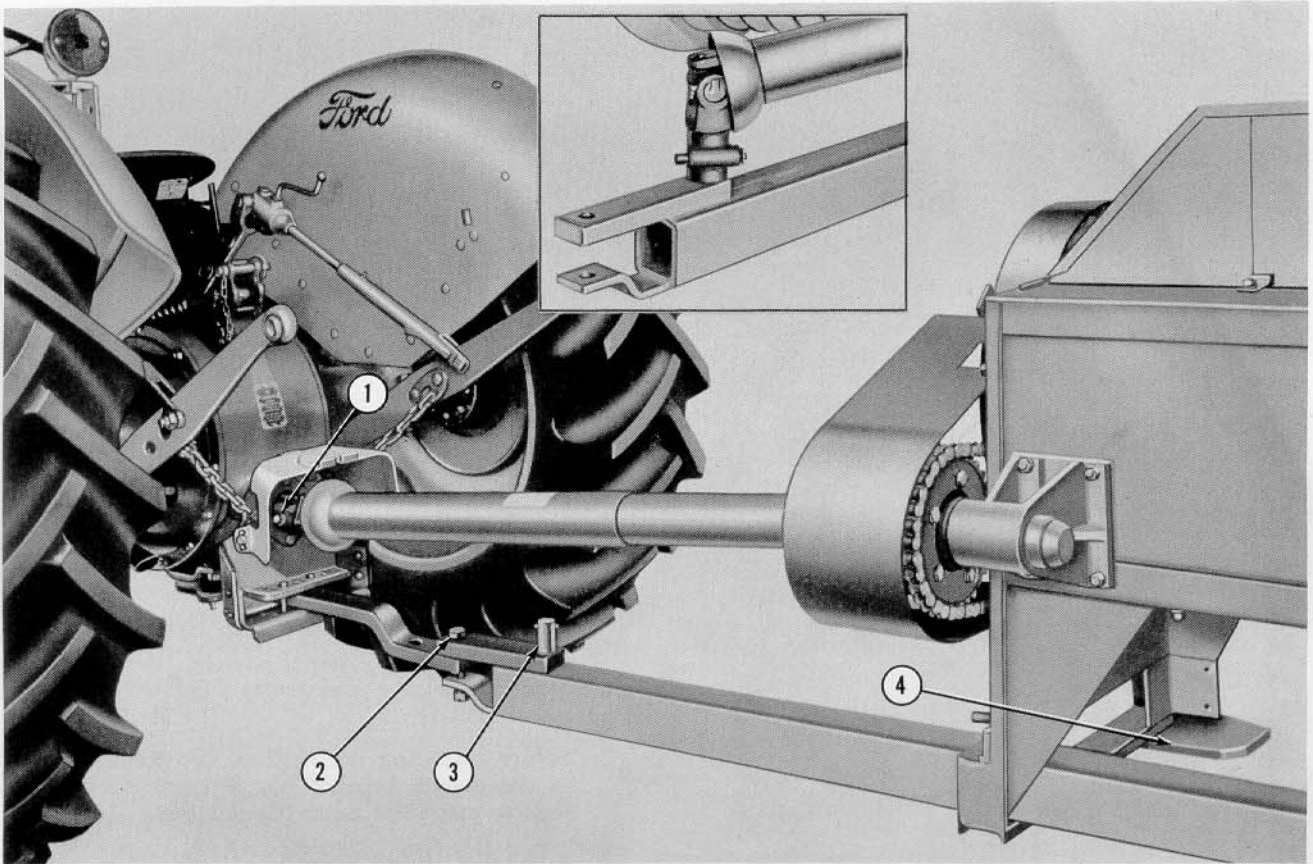

Figure 3
When attaching the baler to late Series 600, 700, 800 and 900 Ford Tractors which are equipped (standard) with a Swinging Drawbar and $1\frac{3}{8}$ " P.T.O. shaft, the drawbar should be in the extended position with the offset down as shown in Figure 3. The drawbar should be locked in the center position with two $\frac{5}{16}$ " bolts. The baler tongue may be set in the extreme left position for field operation or in the right position for transport purposes.
special retainer (3), Figure 3, is provided for attaching the P.T.O. shaft to the baler tongue during transport (see insert, Figure 3). When changing the tongue from transport to operating position, always remove the universal drive from the retainer and attach it to the tractor P.T.O. shaft.
To attach the baler to the tractor, raise the tongue to the proper height by means of the jack (see 4, Figure 3). Next, disengage the tractor P.T.O. and back the tractor into position in front of the baler. Attach the tongue to the drawbar with a lock pin and bolt and nut (2) as shown.
Place a few drops of oil on the tractor P.T.O. shaft and turn the shaft until the hole is aligned with the hole in the universal joint assembly. Push in on the spring-loaded pin (1), Figure 3, and slide the universal joint over the P.T.O. shaft until the pin is locked.